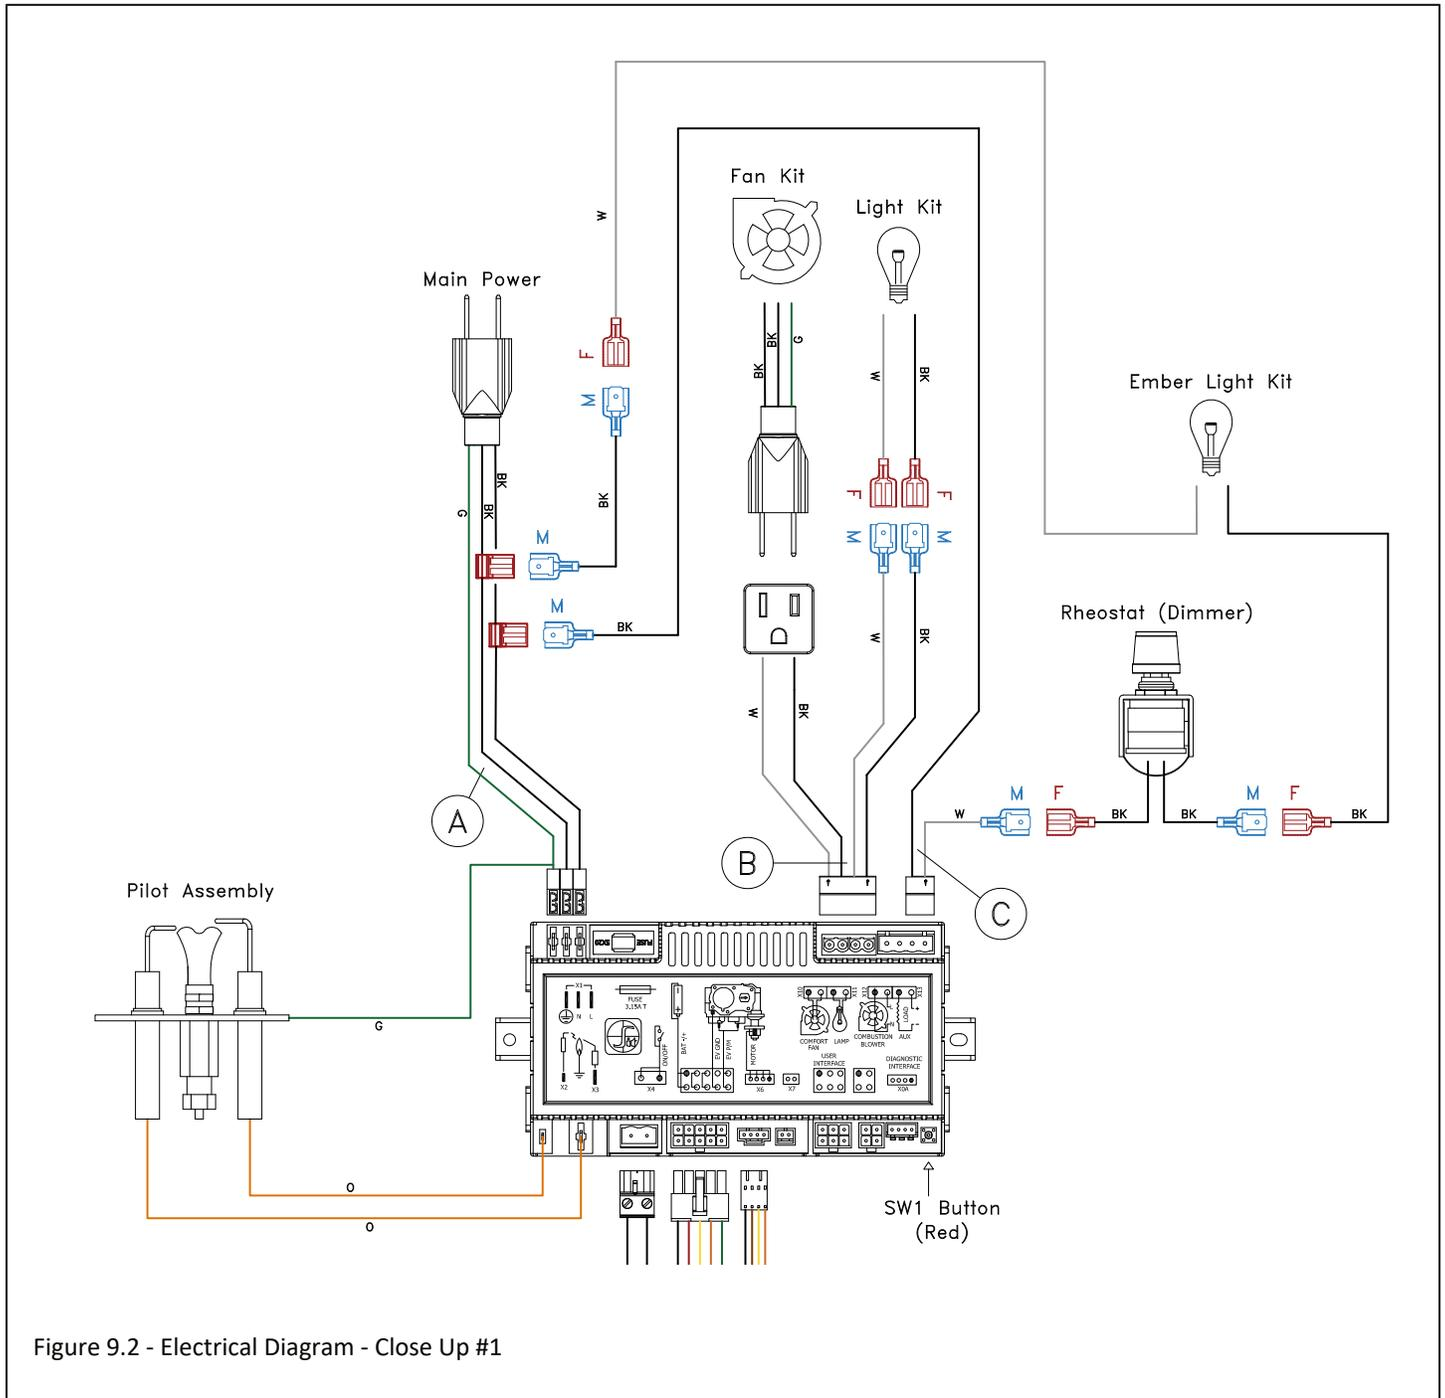

Figure 9.2 - Electrical Diagram - Close Up #1
- Figure 9.2 shows a close up of the wiring diagram. This figure shows the main power cord, optional fan kit, top light kit, ember bed light kit, and pilot assembly.